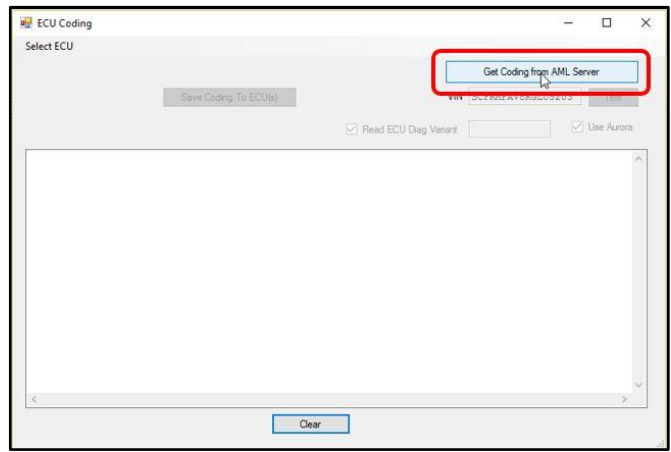

Figure 3
- 8. Select 'Get coding from AML Server' (refer to Figure 3).